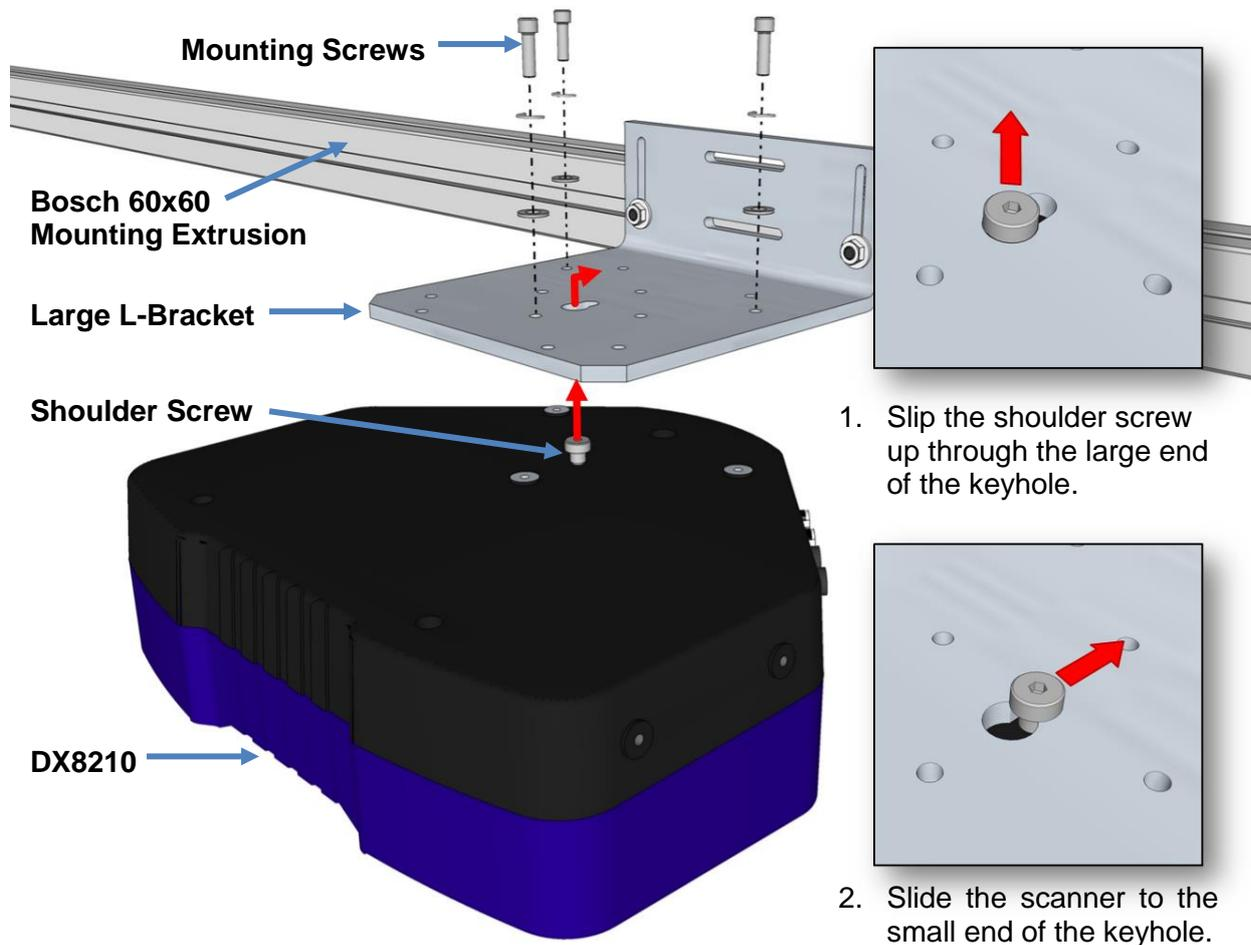

Figure 14: Keyhole mounting with large L-Bracket (Bosch 60x60 Extrusion)
- Shoulder screw (see *Figure 14: Keyhole mounting with large L-Bracket*)
To aid in mounting the DX8210 with the large L-Bracket, mount the bracket to the mounting structure as shown. Next, insert the shoulder screw (provided) into the central mounting hole in the back of the unit, and then hang the scanner using the brackets keyhole, as shown in figure 14 below. Finally, secure the scanner to the bracket with mounting screws.